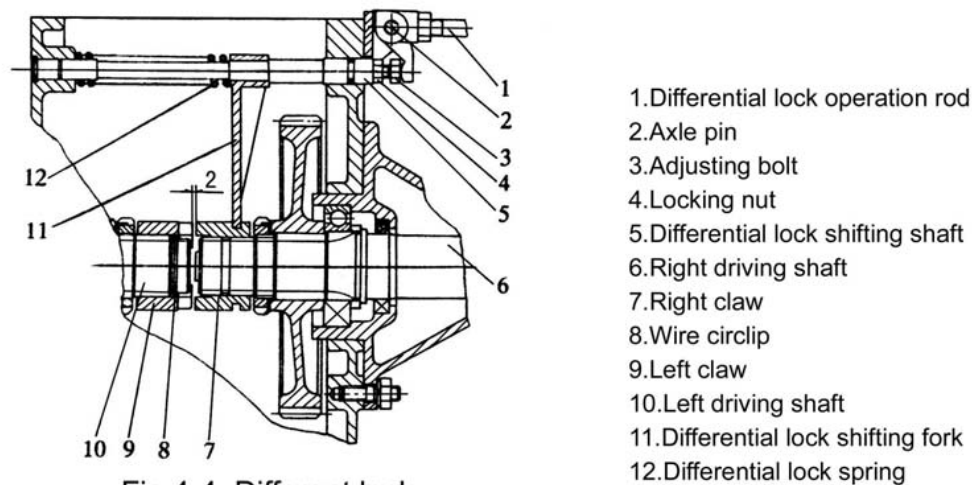

Fig.4-4 Differential lock
The differential lock can be adjusted through bolt (3) and nut (4). During adjusting, the gap between left claw (9) and right claw (7) should be about 2mm. Screw in or out the bolt (3) to increase or reduce the gap. After the adjustment has been done, use nut (4) to tighten bolt (3). (Fig.4-4)